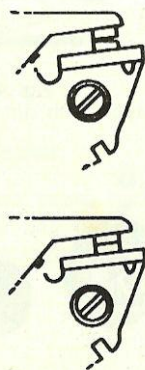

fig. 6
- replace breaker points in case they are badly burned and pitted and cannot be reconditioned with the use of a file. Clean contact surfaces well and make sure they mate properly, as illustrated in fig. 6. This can be obtained by bending the fixed contact using a pair of pliers. Apply one drop of oil to hammer spindle and lubricating wick and check whether insulating washers of hammer are properly situated in order to prevent hammer spring from shorting.